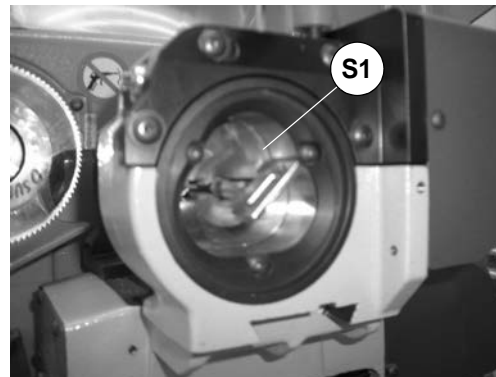
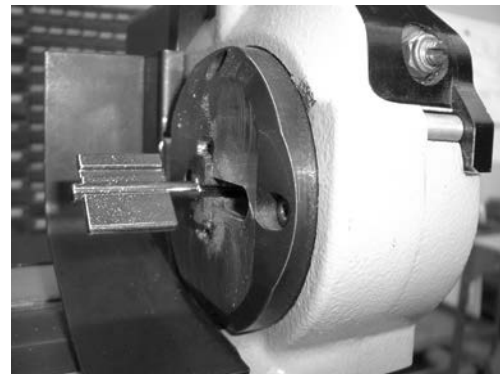
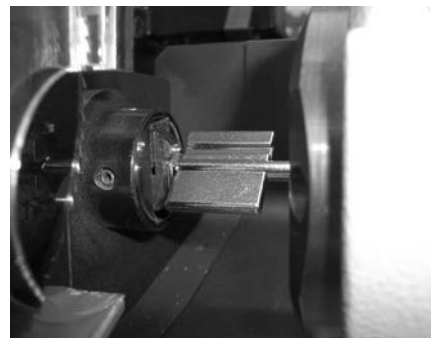

Fig. 54
Fig. 55
Fig. 56
- 4) Fit the key blank into the rotating clamp (S1) from the front, positioning the square stem over the "V" on the grips diagonally so that the left-hand bit is sloping downwards (fig. 54 and fig. 55).
- 5) Close the mobile clamp jaws slightly, using the T wrench already in the screw (V1), without gripping the key stem; move the rotating clamp (G) towards the tailstock, keeping a minimum safety distance of 10 mm between the rotating clamp jaws and the rear limit of the bit. Secure the rotating clamp in position by means of knob (T1).
- 6) Hold the key head with the left hand and push towards the tailstock, making sure that the bits butt up against the grips on the tailstock (K1); simultaneously transfer the 'T' wrench (T4) onto the tailstock screw (V2) and secure the key tip (fig. 56).
- 7) Fit the key blank into the rotating clamp (S1) from the front, positioning the square stem over the "V" on the grips diagonally so that the left-hand bit is sloping downwards (fig. 54 and fig. 55).
- 8) Use the 'T' wrench, already on the screw (V1), to slightly tighten the grips on the rotating clamp, without exerting pressure on the key stem; move the rotating clamp (G) towards the tailstock, keeping a minimum safety distance of 10 mm between the grips on the rotating clamp and the rear end of the bit. Secure the rotating clamp by tightening the knob (T1).